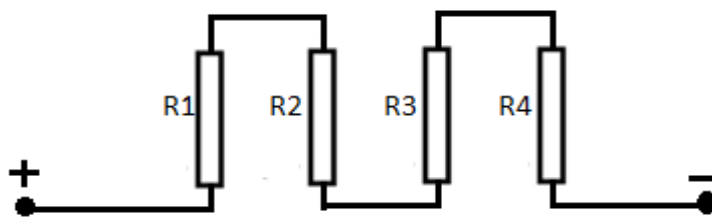

FIGURE 3.2: RESISTORS CONNECTED TOGETHER
- 3.7 Figure 3.2 shows resistors connected together. Are these resistors connected in series or in parallel? (1)